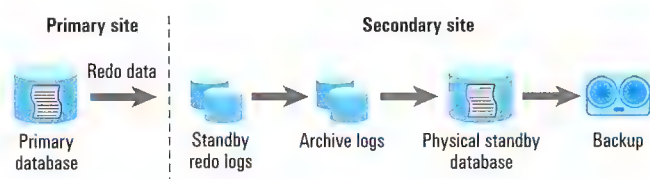

Figure 1. Data Guard Redo Apply (physical standby database)
- **Redo Apply process on a physical standby database:** A physical standby database is kept synchronized with the primary database by applying the redo data received from the primary database using Oracle media recovery (see Figure 1). The standby database is physically identical to the primary database on a block-for-block basis, and thus the database schemas, including indexes, are the same. The physical standby database can be opened in read-only mode, and queries can be run on it at that time; however, it cannot run recovery at the same time it is opened as read-only.